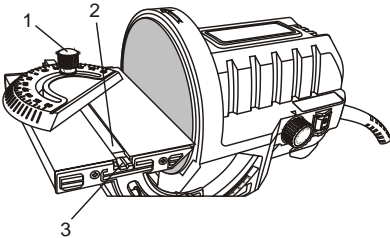

Fig. 8
1. Loosen the miter adjustment knob (1) by turning it counter clockwise (Fig. 8).
2. Slide the miter key (2) into the matching slot (3) in the sanding table.